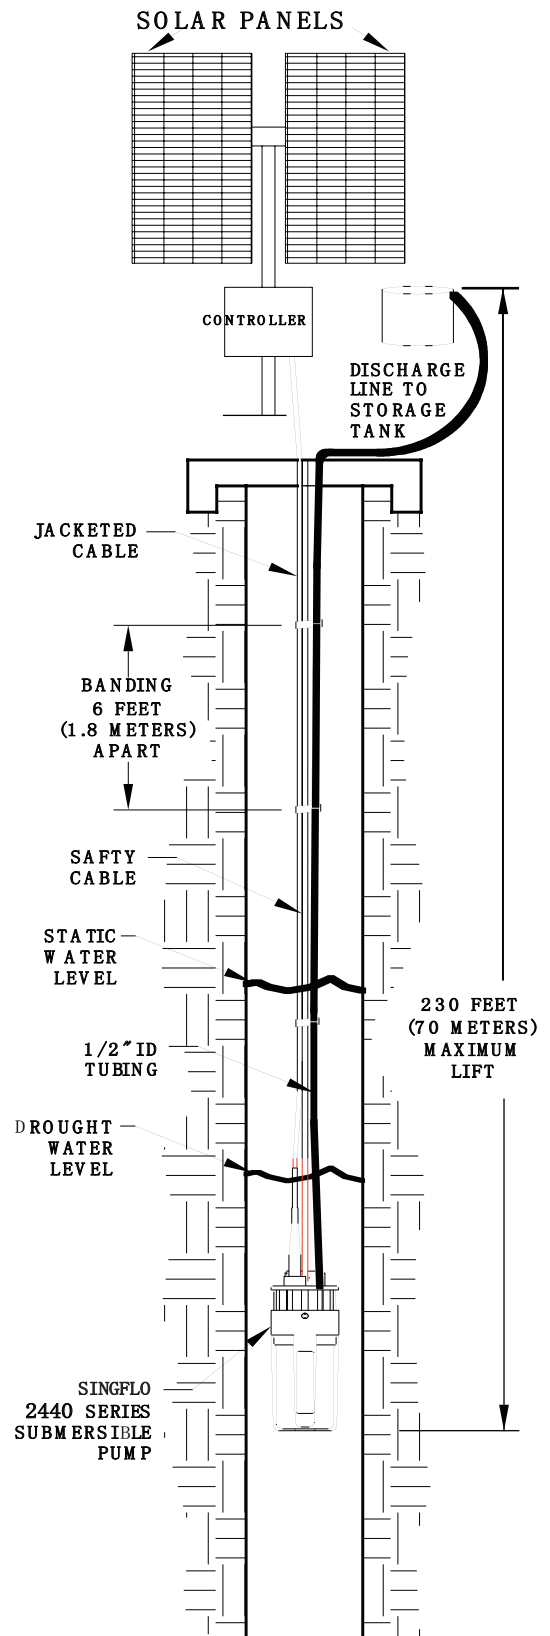

FIGURE 8
5) Band the Hose, Safety Line, and Electrical Cable (Fig. 8).
6) Install Pump (Fig. 8).